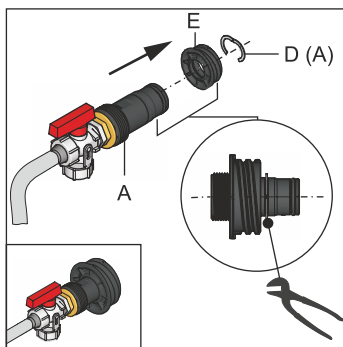

Fig. 9-3 Completing the combined filling and draining filling connection
- Insert the combined filling and draining filling connection in the threaded piece (Fig. 9-3, item E) and secure with the clamping piece (Fig. 9-3, item D).